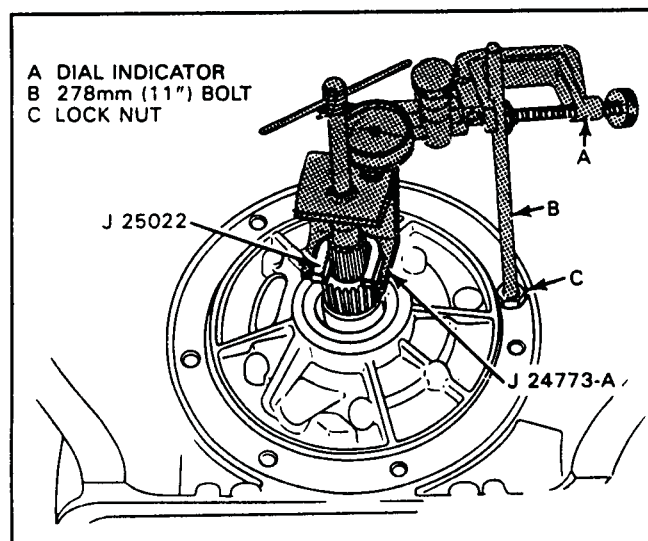

Figure 62
1. Remove a front pump bolt and install a 11" bolt and lock nut (See Figure 62).
3. Install pump remover J-24773-A shown in Figure 62.
4. Install dial indicator, as shown in Figure 62 and set to zero.